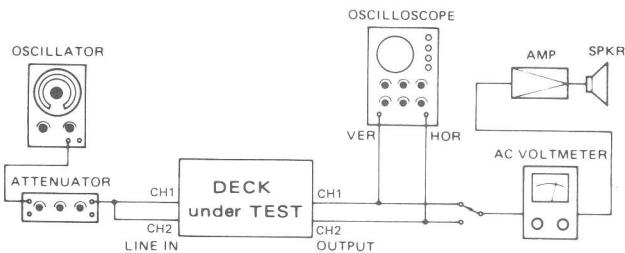

Fig. 2-24 Connection for phase check
1. See Fig. 2-24 for necessary connections.
1. 接続 Fig.2-24